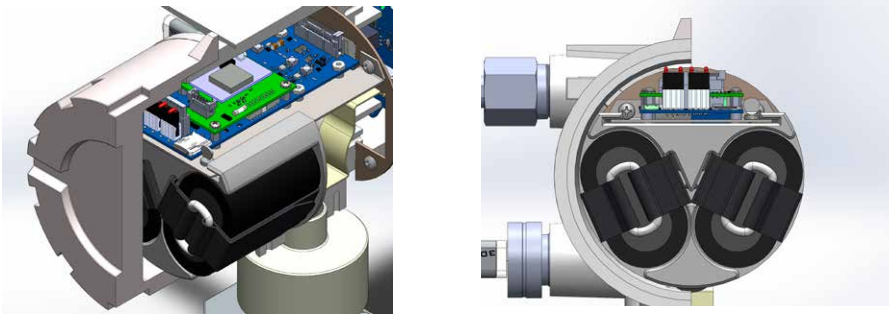

Figure 3.3 - Dual lithium battery pack installed
- The two lithium battery pack connections are three pin connectors located at the end of the main board in the rear compartment, shown in Figure 3.3, pg. 61.